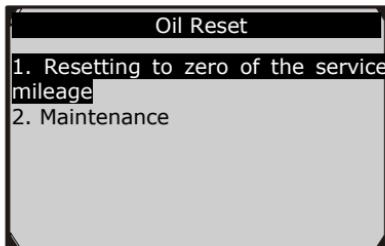

Figure 7.11
- In the **Oil Reset** menu (*Figure 7.11*), select **Maintenance** function and press **OK** button. The screen will display the preset maintenance information of the vehicle. The information items vary with different vehicles.